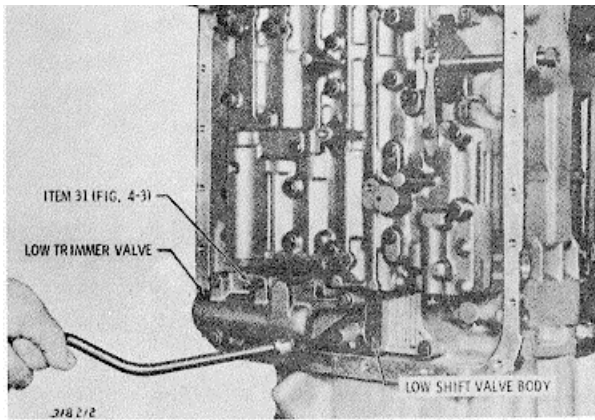

Fig. 5-14. Removing trimmer valve body
(3) Remove the five bolts remaining in the low trimmer valve body (fig. 5-14). Remove the low trimmer valve body.
(4) Remove the one remaining bolt in the low shift valve body. Remove the low shift valve body.
(5) Refer to paragraphs 6-5 and 6-6 for rebuild of the low trimmer and shift valve bodies.
(6) Remove the seven remaining bolts that retain the cover plate. Remove the cover plate.